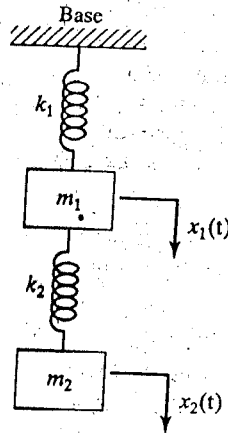

FIGURE 5.16
- 5.1 Find the natural frequencies of the system shown in Fig. 5.16, with $m_1 = m$, $m_2 = 2m$, $k_1 = k$, and $k_2 = 2k$. Determine the response of the system when $k = 1000$ N/m, $m = 20$ kg, and the initial values of the displacements of the masses m_1 and m_2 are 1 and -1, respectively.
5.21 Determine the initial conditions of the system shown in Fig. 5.16 for which the system vibrates only at its lowest natural frequency for the following data: $k_1 = k$, $k_2 = 2k$, $m_1 = m$, $m_2 = 2m$.
5.22 The system shown in Fig. 5.16 is initially disturbed by holding the mass m_1 stationary and giving the mass m_2 a downward displacement of 0.1 m. Discuss the nature of the resulting motion of the system.